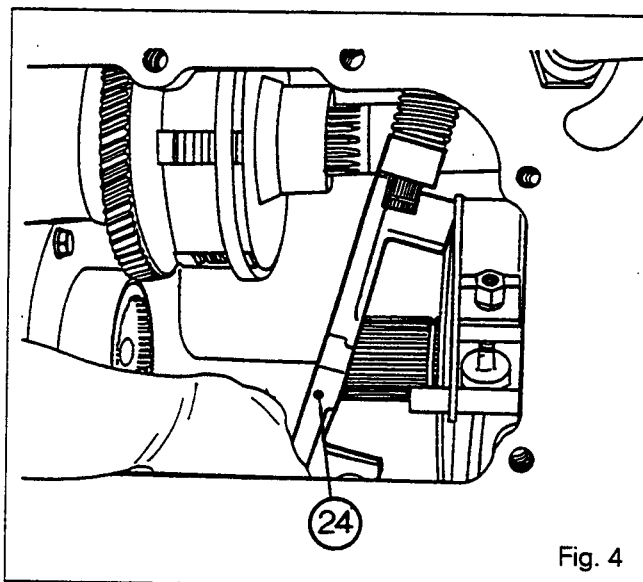

Fig. 4
- 22. Remove the closing plate (24) and the control shaft (20).
**Note:** Keep the mechanism (31) and the brake discs (30) towards the rear. Withdraw the closing plate (24) (Fig. 4), inclining it in order to disengage it from the dowel (18), the finger (23) and the bevel drive pinion (26) and to release the shaft (20) from the housing.
- 23. Remove the spring (17) and the washer (22).
- 24. Remove the retainer ring (21) (if necessary) on the control shaft (20).
- 25. Remove the discs (30) and the mechanism (31).